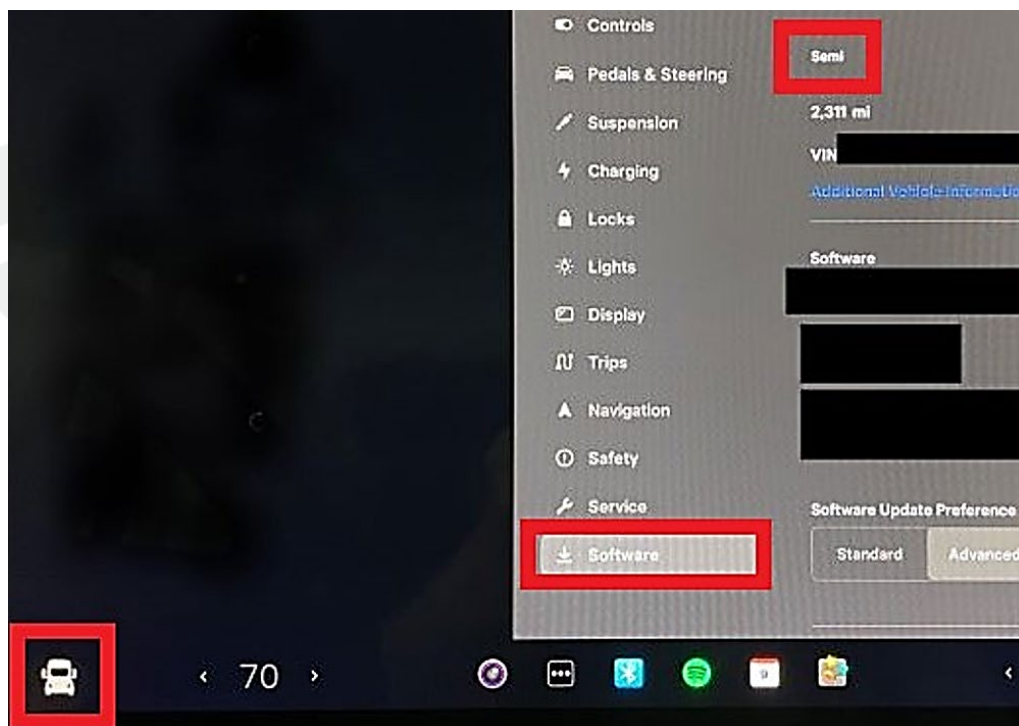

Figure 1
4. Disable the Low Voltage (LV) and High Voltage (HV) systems.
- a. On the RH touchscreen, touch **Controls** (vehicle icon) > **Software**, and then hold **Semi** until the “Please enter access code” window appears (Figures 1 and 2).